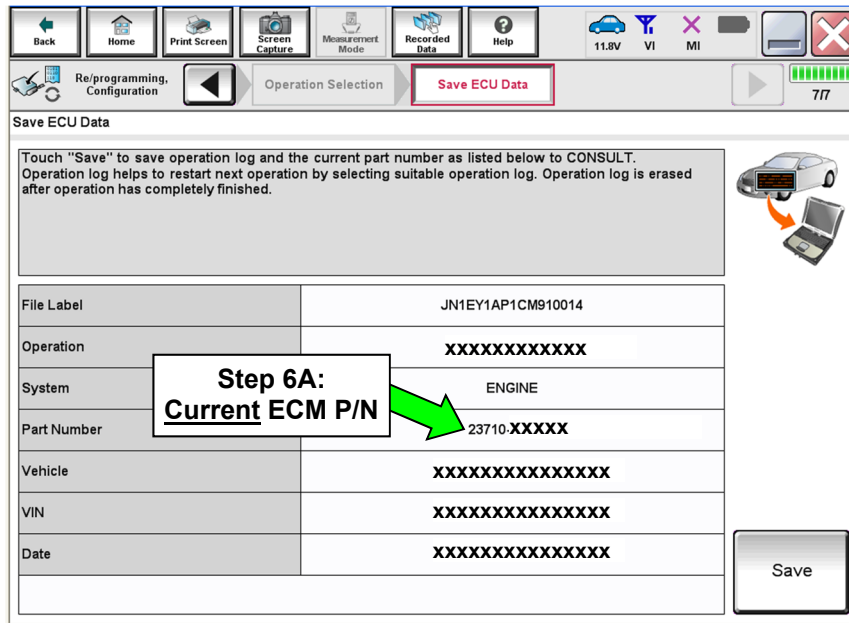

Figure 2
5. Follow the on-screen instructions and navigate C-III plus to the screen shown in Figure 2.
6. When you get to the screen shown in Figure 2, confirm this bulletin applies as follows.